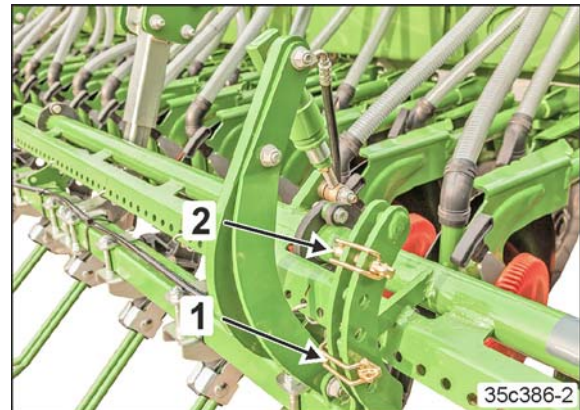

Fig. 192
- Hebel in Position 1 (Fig. 192/1)
- Hebel in Position 2 (Fig. 192/2)